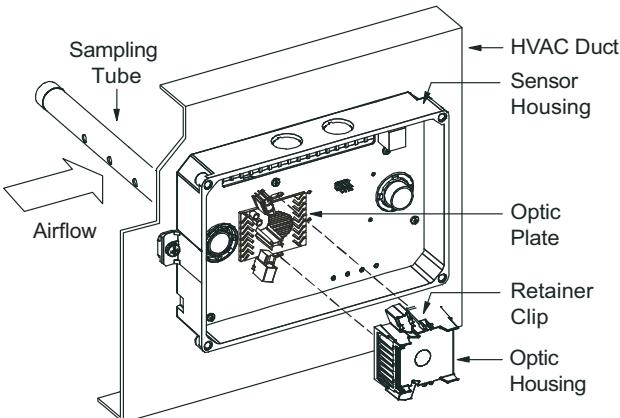

Fig. 45 — Sensor Cleaning Diagram
1. Disconnect power from the duct detector then remove the sensor's cover (see Fig. 45).